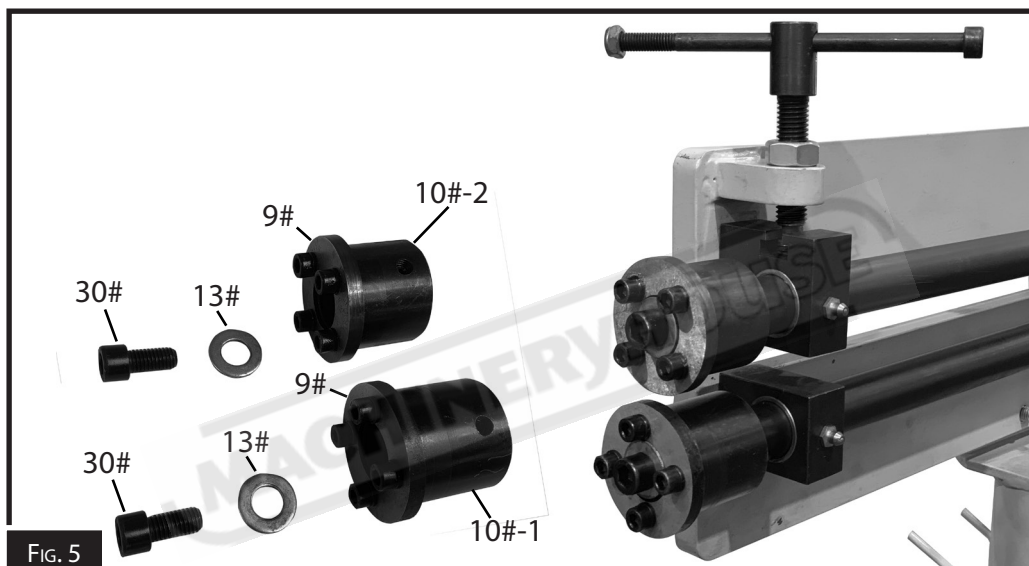

FIG. 5
1. Set up the Bead Roller with cutting dies (10#-1, 10#-2) and cutting plate (9#) as shown in Fig. 5.
2. Inspect the cutting plate (9#) as shown in Fig. 5. When the Bead Roller is aligned correctly, the edges of the cutting plates should almost be touching. If they are not almost touching then the following steps need to be taken.